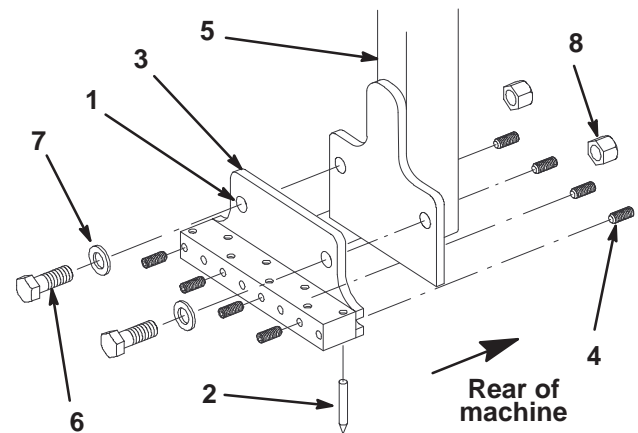

Figure 1
### Installing Tine Heads with 16mm Mounting Holes (Fig. 1)
If your tine heads have mounting holes that measure 16mm (Fig. 1), proceed with the following:
1. Slide the tines completely into the mini tine head (Fig. 1) and torque the set screws to 35–40 ft-lbs (50–55 N•m). When installing the tines, use a piece of wood or a metal plate to hold the tines into place until the set screws can be tightened.
2. Mount the tine heads to the tine arms with (2) M16 x 45mm capscrews, flat washers, and lock nuts (Fig. 1). Torque to 155–180 ft-lbs (205–245 N•m).
**Note:** If mounting the tine head to MultiCore Model No. 09697, 09698, or 09699, you will need parts listed in the table below which are not included in this kit. Press the spacers into the tine head mounting holes (Fig. 1) and use the fasteners stated in the table to mount the tine heads to the tine arms. Torque to 60–70 ft-lbs (85–95 N•m).